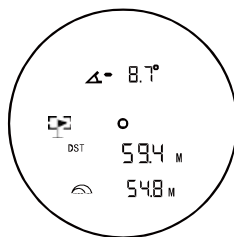

Figure 4
In the slope mode, press and hold the Power/measure button (1), then move the device slightly left and right until the distance to the flagpole is locked and displayed on the LCD (Fig. 4). After locking a flagpole, the device will vibrate.